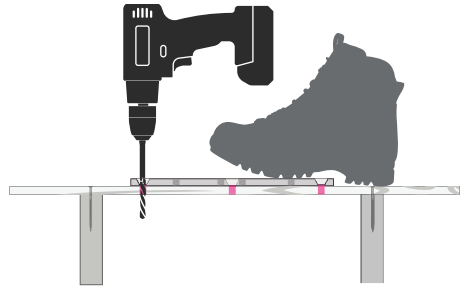

FIGURE 4
4. **(FIGURE 4)** Replace the deck planks (leaving one open to access under the brace blocks) and place the deck plate over the areas you've marked for drilling.
5. **(FIGURE 4)** Using the 11mm drill bit, drill through the deck plate holes, through the brace block.